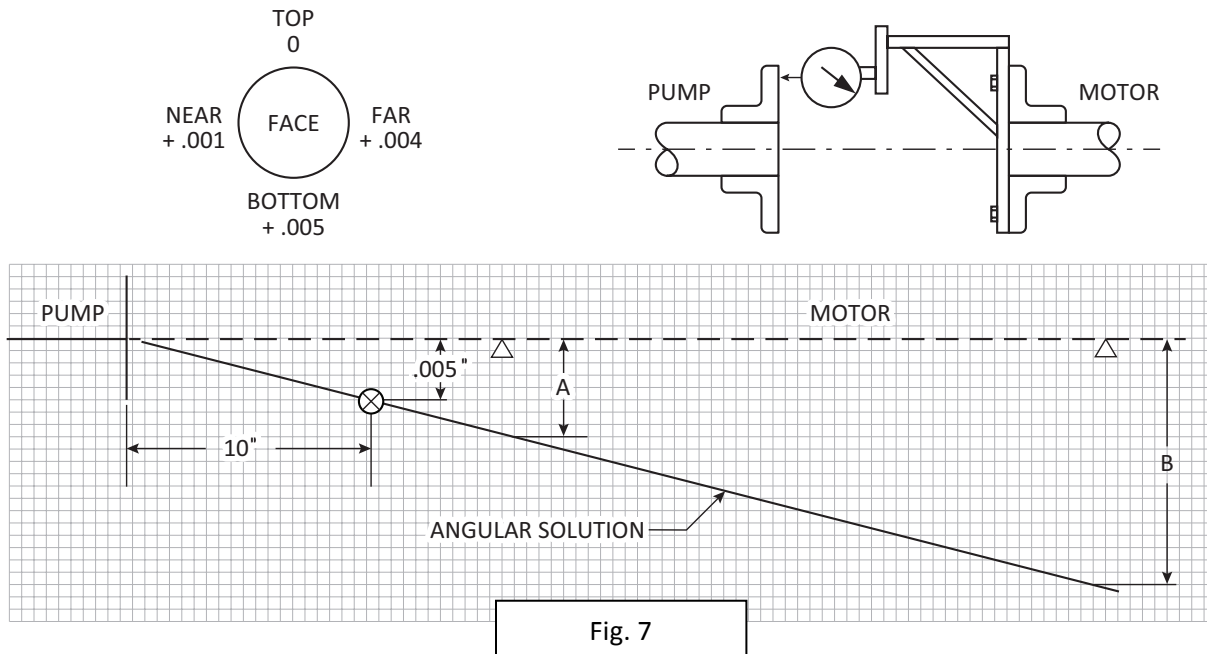

Fig. 7
With the indicator bracket attached to the motor and the indicator reading off the pump hub face, rotate the shaft in 90° increments and take readings as shown in Fig. 7. Make sure that both shafts being aligned are axially restrained, as any endplay will distort the face readings!
Extend the 10-inch face-measuring diameter along the dashed pump centerline. Using a vertical scale of one small square equals .001 inch, plot the .005 inches below the pump centerline. As seen in Fig. 7, the line drawn between the pump flange center and through the plotted point, extended past the plane of the motor feet. This line represents the *angular only* orientation of the motor shaft centerline with respect to the pump shaft centerline.
At the location on figure 7 of the front motor feet (A) and the back motor feet (B) count the number of squares below the shaft centerline to the motor shaft centerline extension. To bring the motor shaft into angular alignment in the vertical plane you would shim the front motor feet .0075 inch and shim the back feet .0020 inch.